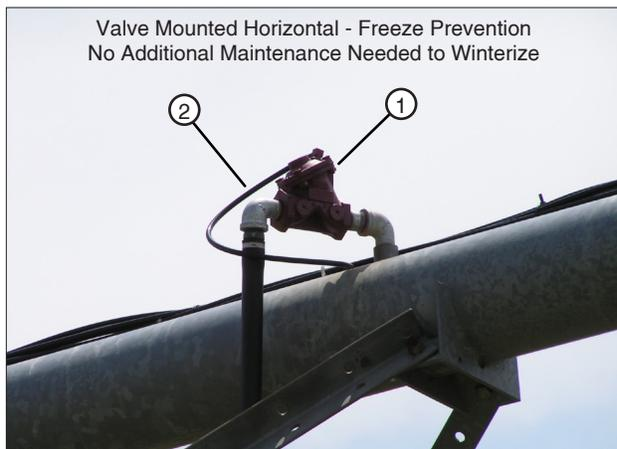

Figure 170-2 1. Aquamatic Valve
One or more Aquamatic sprinkler valves are opened and closed by one solenoid valve in the VRI tower box. A plastic tube connects each Aquamatic sprinkler valve to a solenoid valve. Refer to Figure 170-2.
A typical plumbing configuration for regions where the temperature during the winter months drops below 40°F (4°C) and/or the growing season is six months is shown in Figure 170-2.
- The valve is mounted horizontally which allows water to drain out of the valve and plumbing reducing the possibility of damage due to freezing. Refer to Figure 170-2.